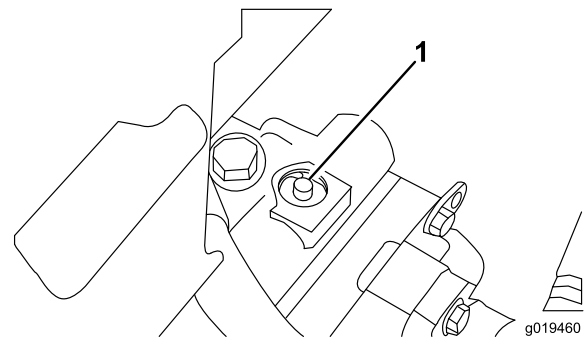

Figure 37
1. The bypass valve is located on top of variable displacement pump (Figure 37). Rotate the valve 90°, in either direction, to open and allow oil to bypass internally. Because fluid is bypassed, the machine can be moved slowly without damaging the transmission.